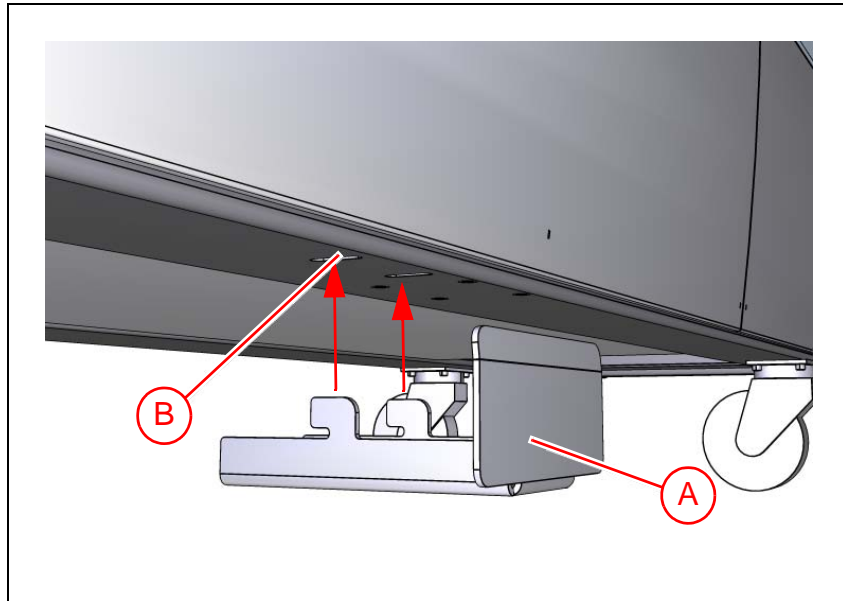

Figure 2-14. Protection plates.
3. Mount the two provided impact protection brackets ('A' in Figure 2-14) at the bottom front slots ('B') in the machine frame.